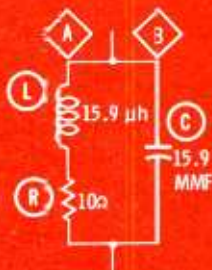

Fig. 2. Resonant circuit with branches labeled. Resonant frequency is 10 mc.
If we assign values to the circuit components as in Fig. 2, the value of Z for the parallel circuit at resonance (10 mc) can be determined.  $X_L$  at 10 mc is 1,000 ohms.
If the impedance of a parallel tuned circuit must be determined at any frequency other than resonance, a different approach must be used. Then we must consider the impedance of each branch and compute as for resistors in parallel. The two separate branches are labeled A and B in Fig. 2 and the combined or total impedance may be found by the formula:
Let's calculate the impedance of the parallel tuned circuit in Fig. 2 at 10 mc, 11 mc and 9 mc to familiarize ourselves with the change in impedance at frequencies away from resonance. At 10 mc,  $X_L$  and  $X_C$  are 1,000 ohms each, so from equation (12) we have: